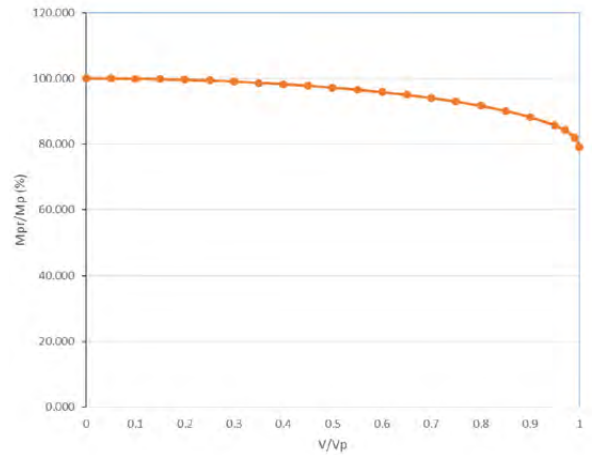

Figure 3 Reduction in plastic resistance moment for increasing ratio of shear force to shear resistance
►27 The value of  $(M_p - M_{pr})/M_{pw}$  where the shear force is half the shear resistance of the web is 0.134. The reduction in plastic bending resistance of the section is therefore about 13% of the plastic bending resistance of the web. For a 400 mm deep I section with 180 mm wide flanges 15 mm thick and an 8 mm thick web, the reduction in the full plastic bending resistance is only 3% under a shear force of half the shear resistance of the web. Figure 3 shows the relationship between plastic resistance moment and the ratio of shear force to shear resistance of the web for the I section discussed.